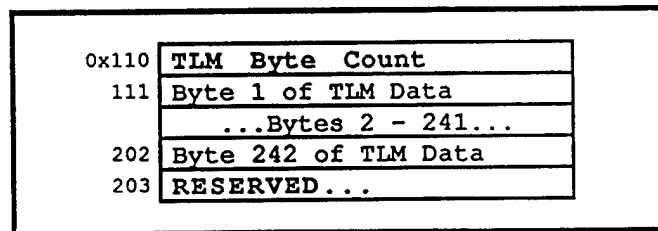

Figure 16: Type II Telemetry Interface
**3.4.3.2 Type II Telemetry Interface** The Telemetry Interface for Type II DUTs will start at location 0x110 of the 2k memory mapped interface. The communication synchronization will be accomplished by the interrupt line. When the DUT has data for the EPP to collect, it will assert the interrupt line. The EPP will then collect the data stored in the DUT's telemetry area. No additional data may be written by the DUT until the EPP clears the interrupt indicating it has read all the data. Due to downlink formatting the TLM data will be limited to 242 bytes of data per interrupt (see Figure 16).